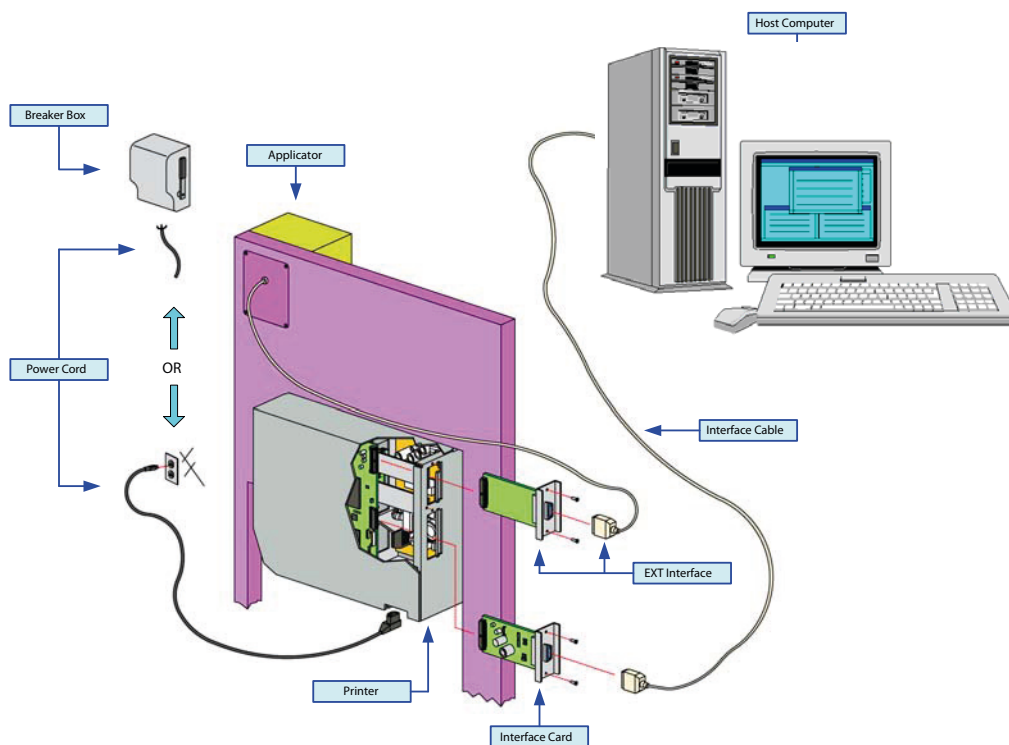

Figure 3-4, Printer Connection
**ATTENTION:** Figure 3-4 displays the printer interfaced with a host computer. However, the printer may also be interfaced with a PLC, keyboard, scanner, etc.